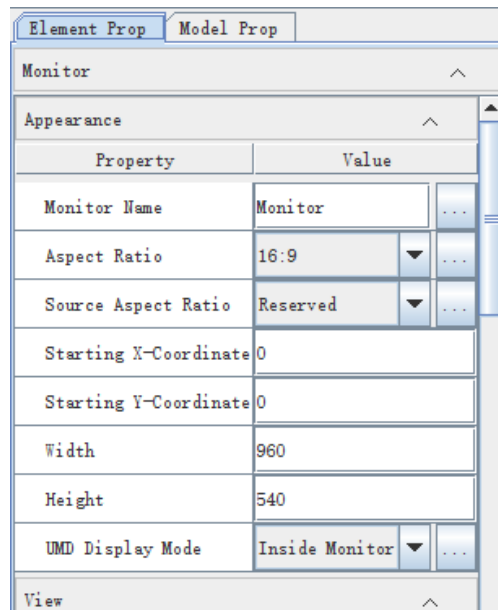

Figure 2.3-20 Properties Pane for Model Configuration
- **Element Properties:** Show the properties list for the selected element, as shown in **Figure 2.3-20**: